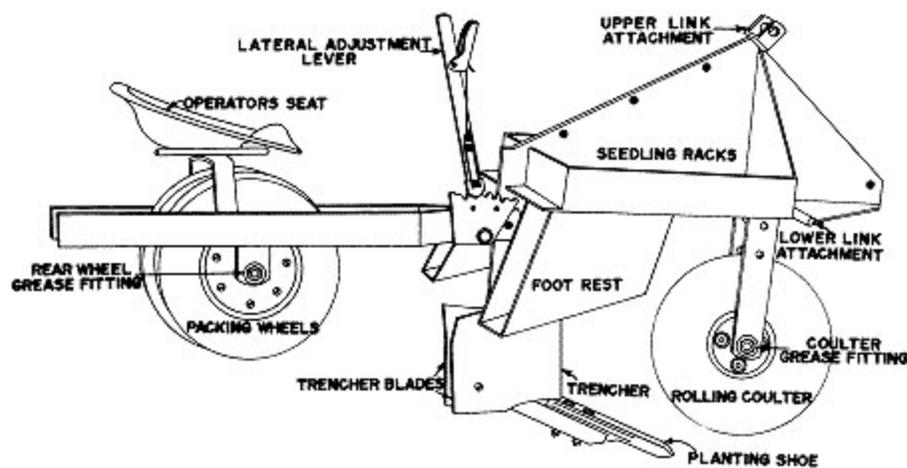

Figure 1
Most planting machines consist of a rolling coulter, a trencher, an operator's seat and packing wheels (Figure 1). These parts are attached to a sturdy frame, usually equipped with a three-point hitch for use on a tractor with a hydraulic lift unit.
- Seedling roots must not be allowed to dry before or during plantings. All trees except the ones needed for a supply on the planter should be kept wrapped in a cool, moist condition in the shade of other trees or beneath a vehicle. If the roots of trees in a bundle are tangled together, each tree should be separated gently so that the small roots are not stripped. Trees on the planter should be covered with wet cloth or kept in water or a mud slurry in seedling racks (Figure 1).
- Planting shoe (Figure 1), for:
Trees are taken from the seedling racks on the tree planter and held with the roots away. Single trees are then transferred to the planting hand and usually held between the forefinger and thumb at about root-collar depth in preparation for planting. Planting is done by placing the tree in the ground between the trencher blades (Figure 1) well forward of the soil that falls in the trench. The tree is held upright or leaned a little backward with the knuckles touching the ground. The operator follows through, holding the tree in position until the forward motion of the machine and soil falling back in the slit holds the tree in place.
Packing wheels do not track, perhaps even run over trees.	<ul style="list-style-type: none"> • Use lateral adjustment lever (Figure 1) to align planter. • Ground hilly or rocky. Adjust the lower linkage (Figure 1) of three-point hitch so machine rides level. • Add stabilizer bar to lower linkage attachments. • Plant on contour.
<p>upper linkage (Figure 1).</p> <ul style="list-style-type: none"> • Decrease the tractor speed to match planting speed. • Check for worn coulter or planting shoe. • Rocky ground or shallow rock causing coulter and trencher to ride high. • Planter operator removing hand too quickly after placing tree between the trencher blades or not placing tree into furrow quickly enough. • Check hydraulic lift setting.